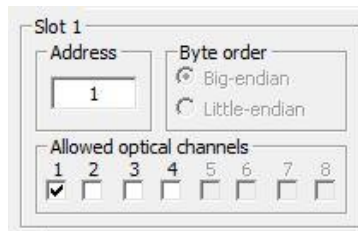

Figure 11-2 Allowed optical channel
- The optical channel request does not match the assigned optical channel (see Figure 11-2)